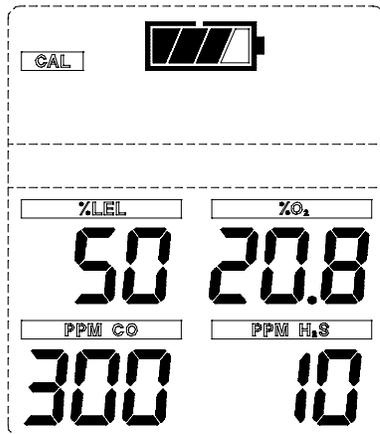

Figure 5-3. CAL Flag
- Once the zeros are set, CAL flag flashes (FIGURE 5-3).